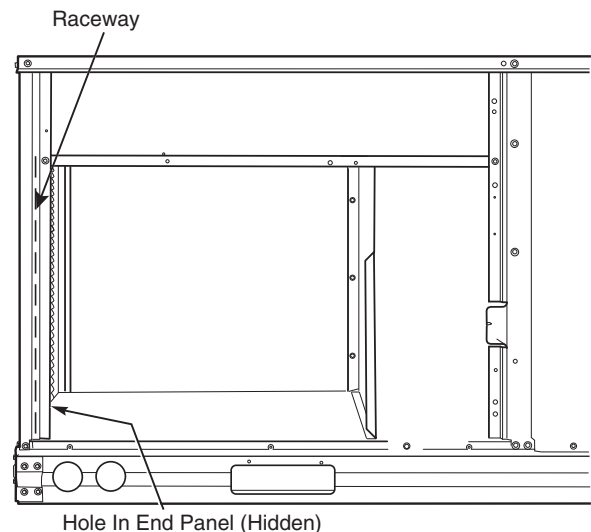

Fig. 36 — Field Control Wiring Raceway
Pass the thermostat control wires through the hole provided in the corner post; then feed the wires through the raceway built into the corner post to the control box. Pull the wires over to the terminal strip on the upper-left corner of the Unit Control Board. See Fig. 36.
2. Feed wires through the raceway built into the corner post (see Fig. 36) to the 24v barrier located on the left side of the control box. The raceway provides the UL-required clearance between high-voltage and low-voltage wiring.
2. Feed wires through the raceway built into the corner post (see Fig. 36) to the 24-v barrier located on the left side of the control box. The raceway provides the UL-required clearance between high-voltage and low-voltage wiring.